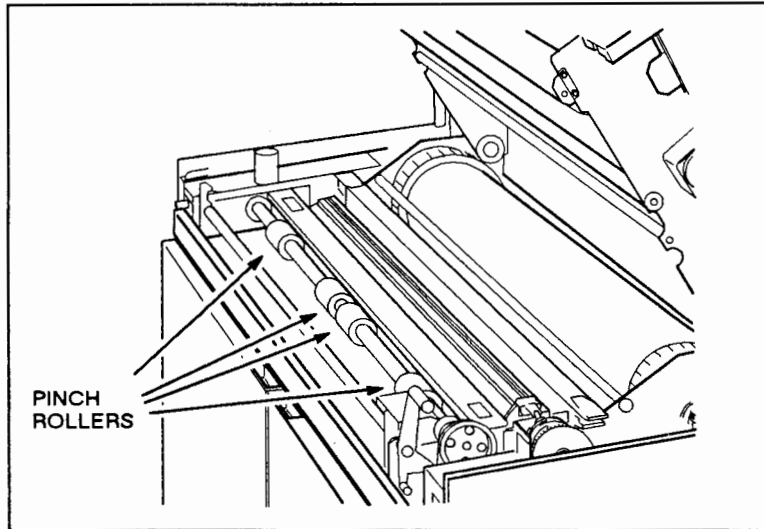

Figure 6-5. Media Pinch Rollers
- c. Place a strip of media over one of the pinchrollers (illustrated in Figure 6-5).